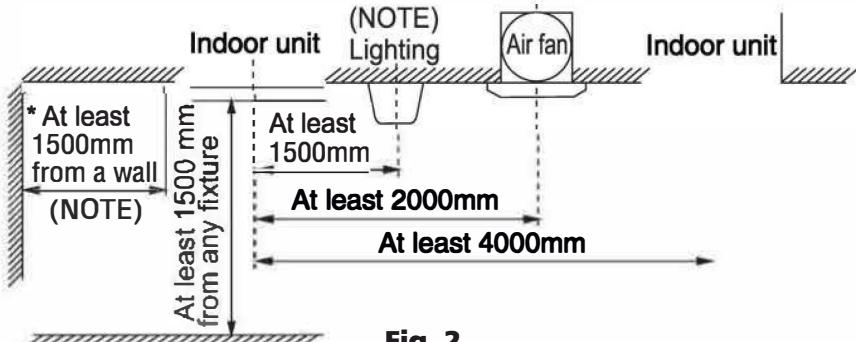

Fig. 2
- Any vents, light fixtures, or other appliances which may disturb the airflow might cause the top side to become dirty if located too nearby, so follow Fig. 2 when installing.